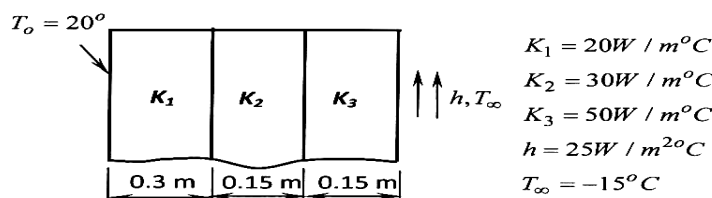

Fig. Q9(b)
b. Inner surface temperature of a composite wall shown in Fig. Q9(b) is maintained at  $20^\circ\text{C}$ . The convective heat transfer takes place at outer surface with  $h = 25 \text{ W/m}^2\text{C}$  and  $T_\infty = -15^\circ\text{C}$ . Determine temperature distribution in the wall.